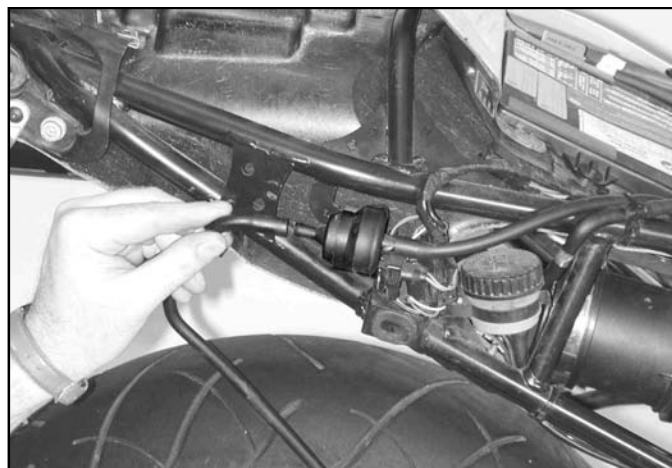

Figure 10
6. Using the "long" hose from **INSTALLATION STEP 1**, plug one end onto the valve body referenced in **INSTALLATION STEP 2**, and the other end onto the upper fitting on the Canister. See figure 10, 11.